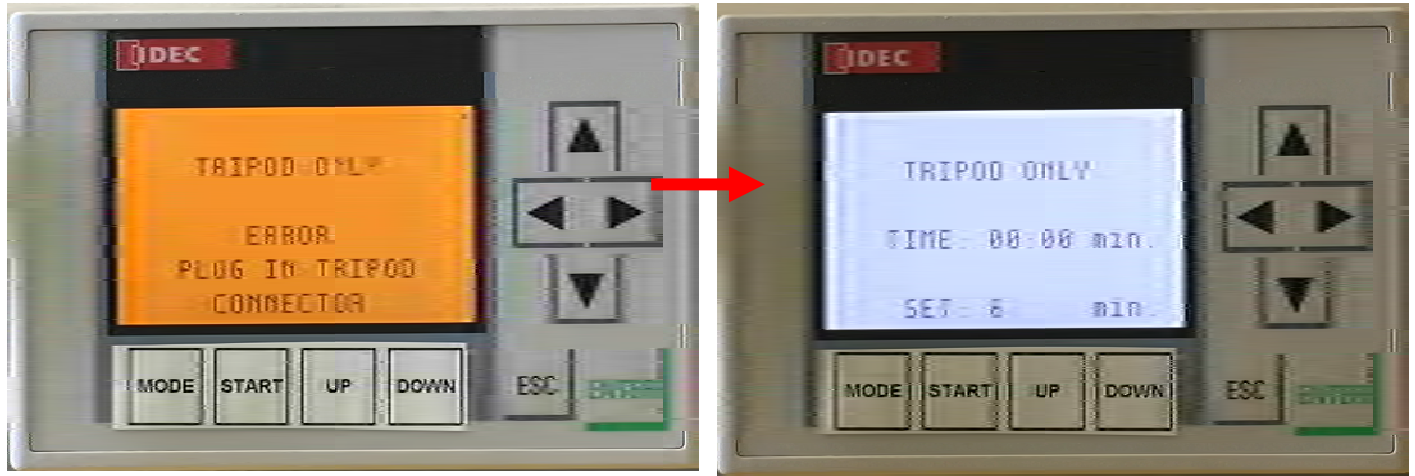

FIGURE 22
- 4.6.1 The Tripod Only Mode (Figure 22) allow the operator to treat an enclosed area using the APA, when it is mounted on a tripod, as a remote aerosol head. This mode works best when HVAC and ventilation have been isolated.